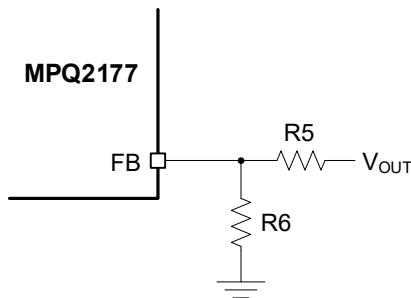

Figure 1: Feedback Divider Network with Adjustable Output
7. To use the enable (EN) function, apply a digital input to the EN pin. Drive EN above 0.9V to turn the regulator on; drive EN below 0.65V to turn the regulator off. If the enable function is not used, connect EN directly to VIN.
8. The external resistor divider sets the output voltage (V_{OUT}) (see Figure 1).